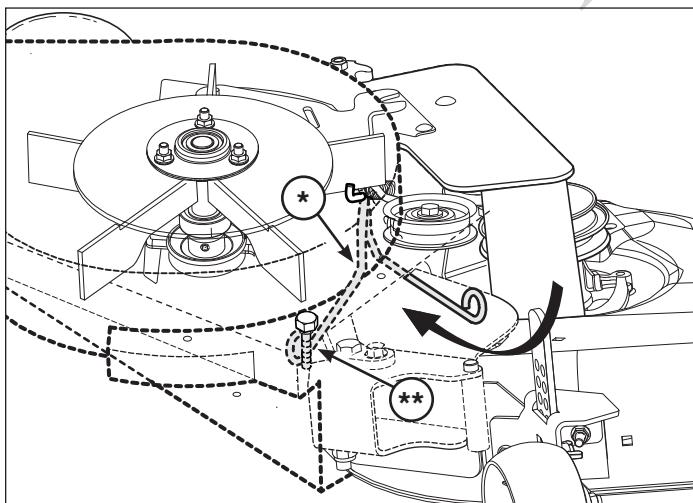

Figure 18
5. Pull belt tension lever (*, Figure 18) away from deck and latch end of lever behind bolt (**).